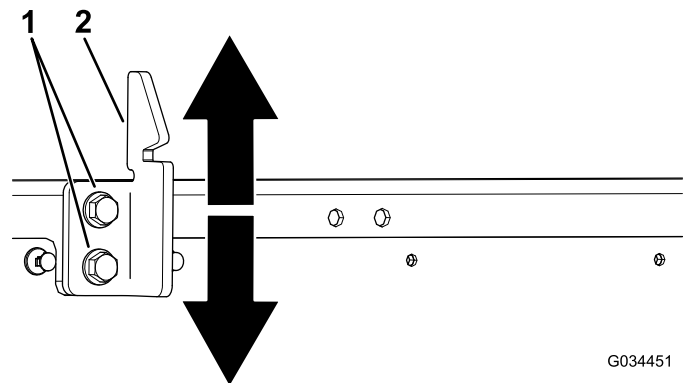

Figure 57
3. Loosen the 2 bolts on the bed-latch striker and move the striker up or down, depending on if the striker is too high or too low (Figure 57).
4. Tighten the 2 bolts on the bed-latch striker (Figure 57).